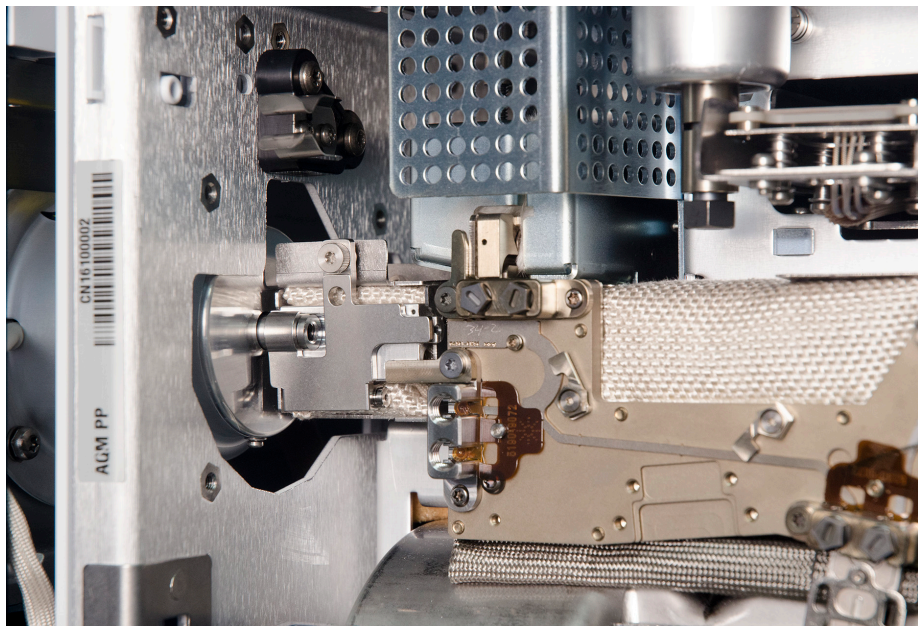

Figure 7. GC/MS interface and bus
- 5 Slide the MS against the GC with the GC/MS interface entering the GC side opening (see Figure 7 on page 87), and the metal brackets entering their slots in the base of the GC.